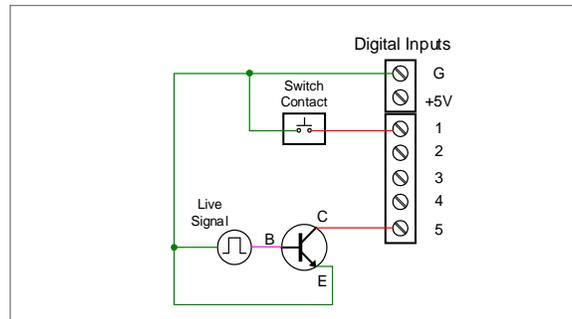

Fig 12: Digital Input from Switch Closure and Live Signal
- Normally open switch contacts can be used as shown in Figure 12. The diagram also shows a Digital Input using an NPN open collector transistor output from a live signal. Logic LO or switch closure appearing across the terminals is interpreted as ON. When using an open collector transistor, a logic HI at the base (marked "B" in Figure 12) will be interpreted as ON.